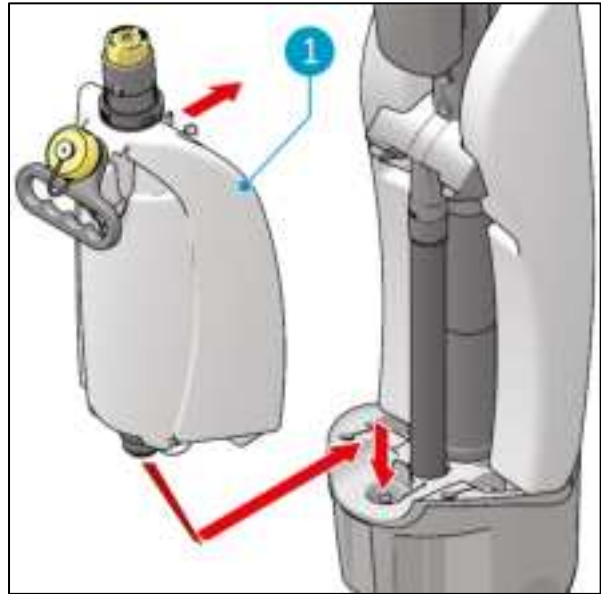

Figure 11
2. Put the tank (Figure 11, pos 1) on the i-mop XL plus with the valve first.